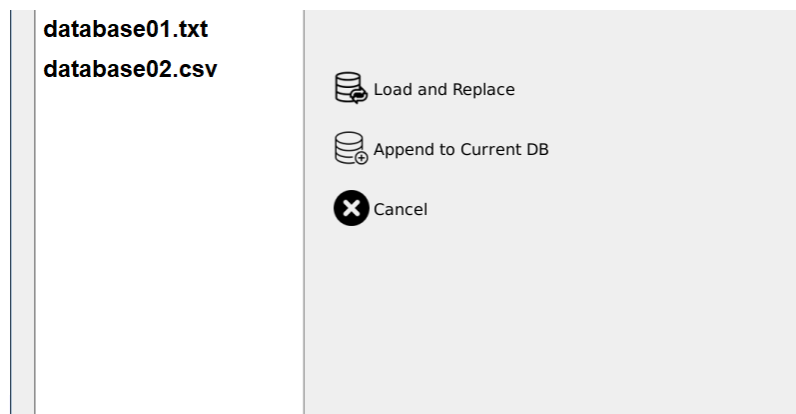

Figure 12: Load database file
- Click on the  icon to load a new CSV database file from printer's storage. On Figure 12 only files with the extension \*.csv or \*.txt imported on the printer's storage will appear in list. Operator may transfer csv-files to the printer using a USB-Flash memory, or through network connection (See section 5.1 on how to import CSV files into the printer).